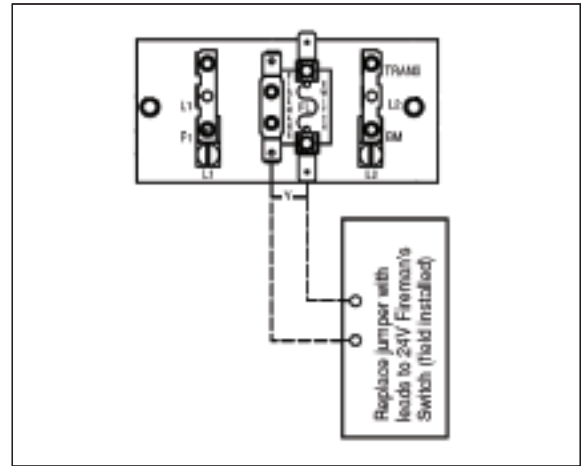

Figure 3-22
4. Remove the factory-installed jumper between the Fireman's Switch terminals. (See Figure 3-22.)